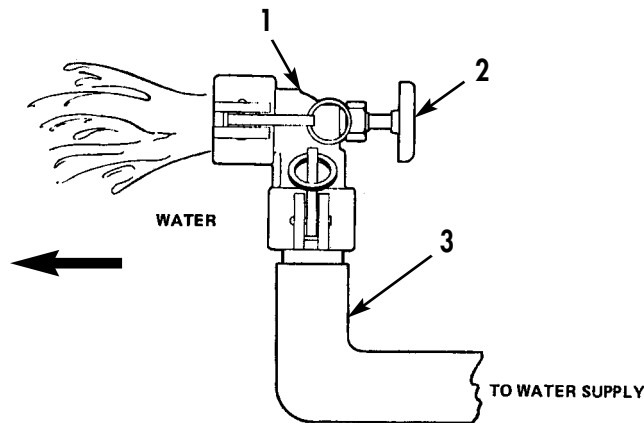

Figure 6. Remove Air from Filler Hose.
5. Remove air from drinking water supply hose (Figure 6, Item 3) as follows:
- a. With coupler valve (Figure 6, Item 1) locked on supply hose (Figure 6, Item 3), turn handwheel (Figure 6, Item 2) clockwise all the way until coupler valve (Figure 6, Item 1) is closed.
- b. Turn handwheel (Figure 6, Item 2) counterclockwise two turns to slightly open coupler valve (Figure 6, Item 1).
- d. When only water flows from coupler valve (Figure 6, Item 1), turn handwheel (Figure 6, Item 2) clockwise all the way until coupler valve (Figure 6, Item 2) is closed.